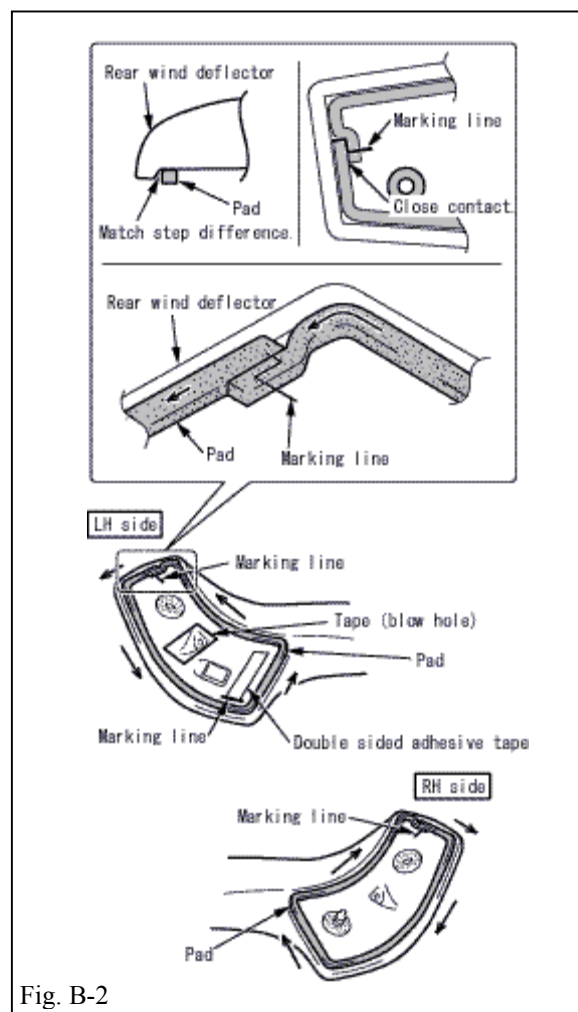

Fig. B-2
4. Remove the pad from the separator sheet and apply it to the Rear Wind Deflector as shown in Fig. B-2. Start just behind the marking line and proceed in the directions shown in the figure. Make sure that: